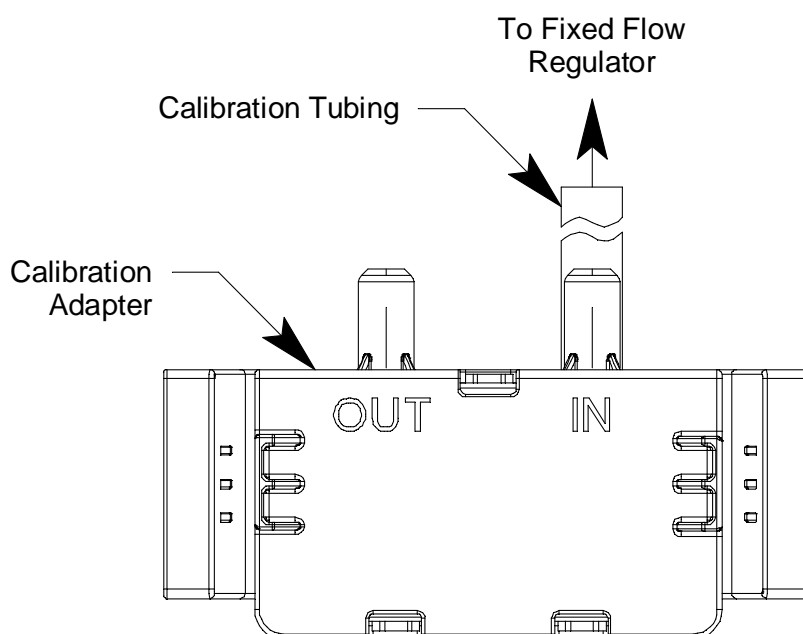

Figure 9: Calibration Kit Assembly
3. Use the sample tubing to connect the calibration adapter to the regulator. Attach the tubing to the calibration adapter on the inlet side as shown below in Figure 9.